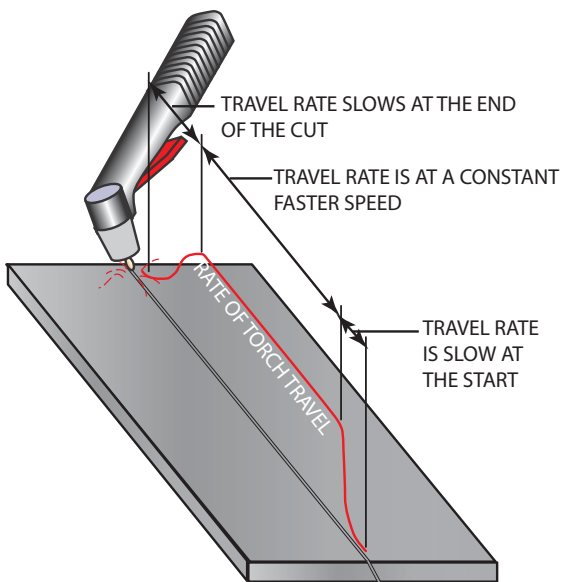

FIGURE 22-39 Travel speed changes to make a complete cut. © Cengage Learning 2012
- Move the torch at a constant speed until you reach the end of the cut. Slow down so that the cut can be completed all the way to the end of the bevel, Figure 22-39.